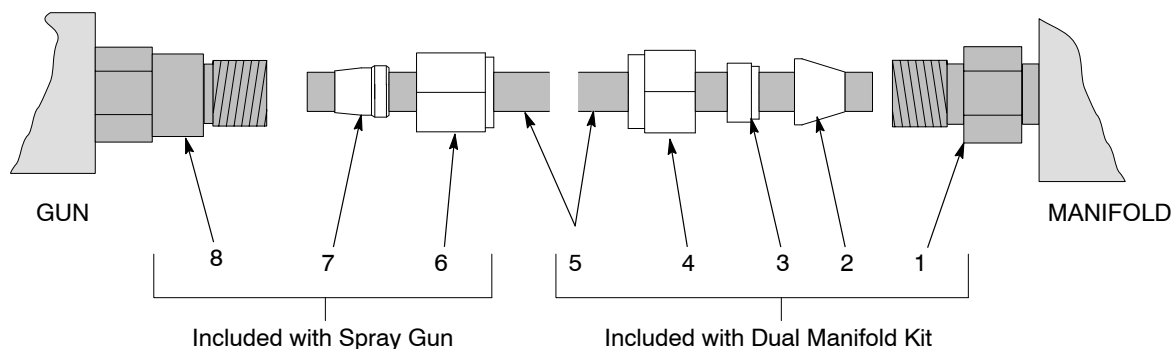

Figure 6 Dual Manifold Tubing Installation
1. See Figure 6. Remove the nut (4) and two piece ferrule (2, 3) from the end of the manifold connector (1).
2. Slide the nut (4) onto the end of the tube (5) followed by the shoulder (3) and cone (2). Make sure the tapered end of the cone is pointing towards the end of the tubing.
1. See Figure 6. Remove the nut (6) and ferrule (7) from the spray gun adapter (8). Slip the nut and ferrule onto the end of the tubing (5) as shown. Make sure the tapered end of the ferrule is pointing towards the tube end.
2. Insert the end of the tubing into the adapter (8) until it bottoms out.